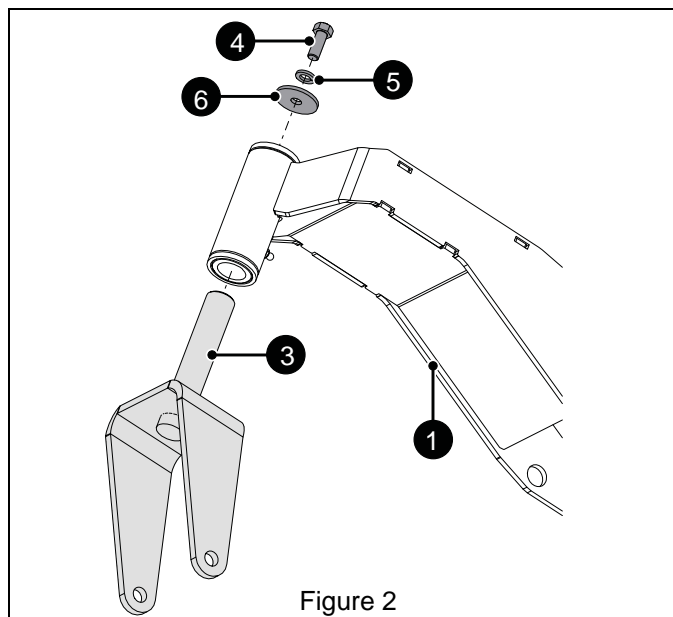

Figure 2
1. Secure caster fork (item 3) to front wheel weldment (item 1) using one 3/8" x 1 1/2" flat steel washer (item 6), one 3/8" x 3/32" lock washer (item 5) and one 3/8" x 1 1/4" hex bolt (item 4). See Figure 2.